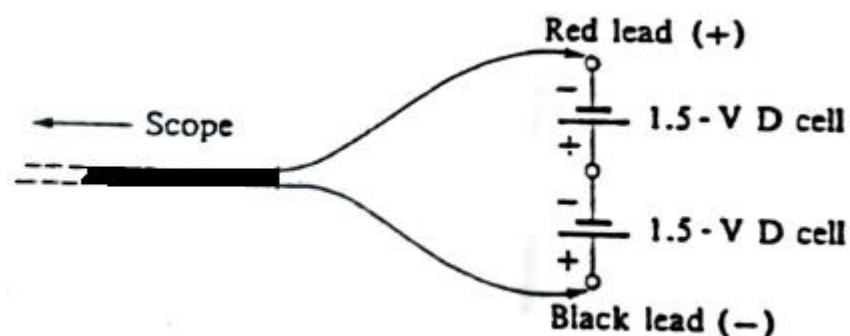

FIG 6.6
- (c) Disconnect the 1.5-V battery and reestablish the zero-volts reference line, then connect the vertical input section of the scope as Fig 6.6 with the vertical sensitivity set at 1 V/cm.